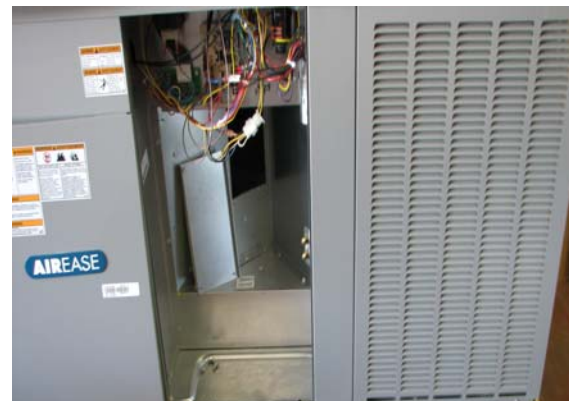

Fig. 1 - Heater access opening.
2. Remove heater compartment access panel see fig. 1.
3. Remove cover plate covering the heater box opening (see fig 1) by removing (4) screws. Save screws.
4. Check the "**Air Flow**" label for correct mounting position. Carefully slide heater assembly into blower section through the access opening. Secure heater into place with screws removed from cover plate. Use (2) additional screws. Use caution when inserting heater to avoid damage to heater elements.
6. Connect the (6) pin heater plug harness into the wiring harness of the control assembly.